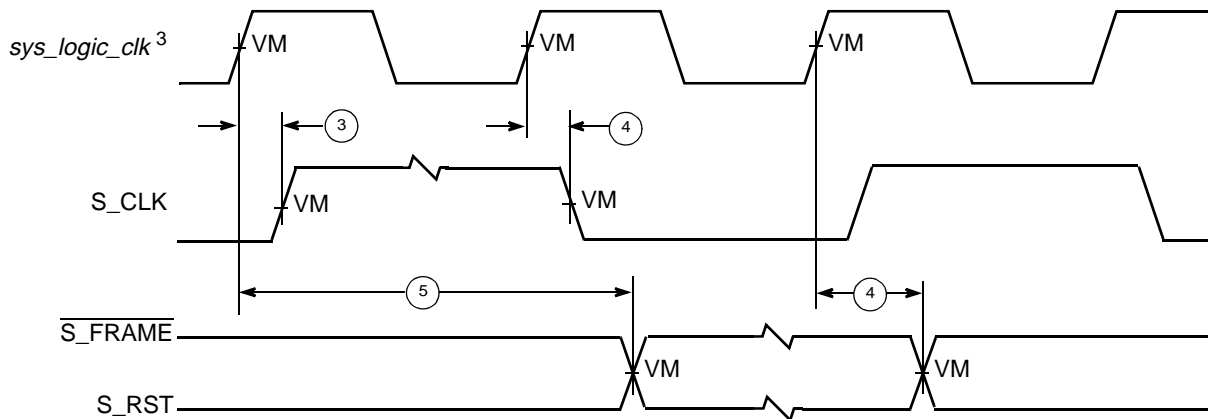
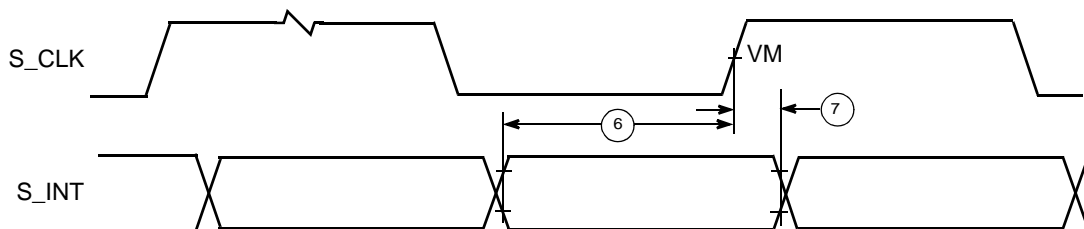

Figure 18. EPIC Serial Interrupt Mode Output Timing Diagram
Figure 19. EPIC Serial Interrupt Mode Input Timing Diagram
2. S\_RST, S\_FRAME, and S\_INT shown in Figure 18 and Figure 19, depict timing relationships to *sys\_logic\_clk* and S\_CLK and do not describe functional relationships between S\_RST, S\_FRAME, and S\_INT. See the *MPC8245 Integrated Processor User's Manual* for a complete description of the functional relationships between these signals.